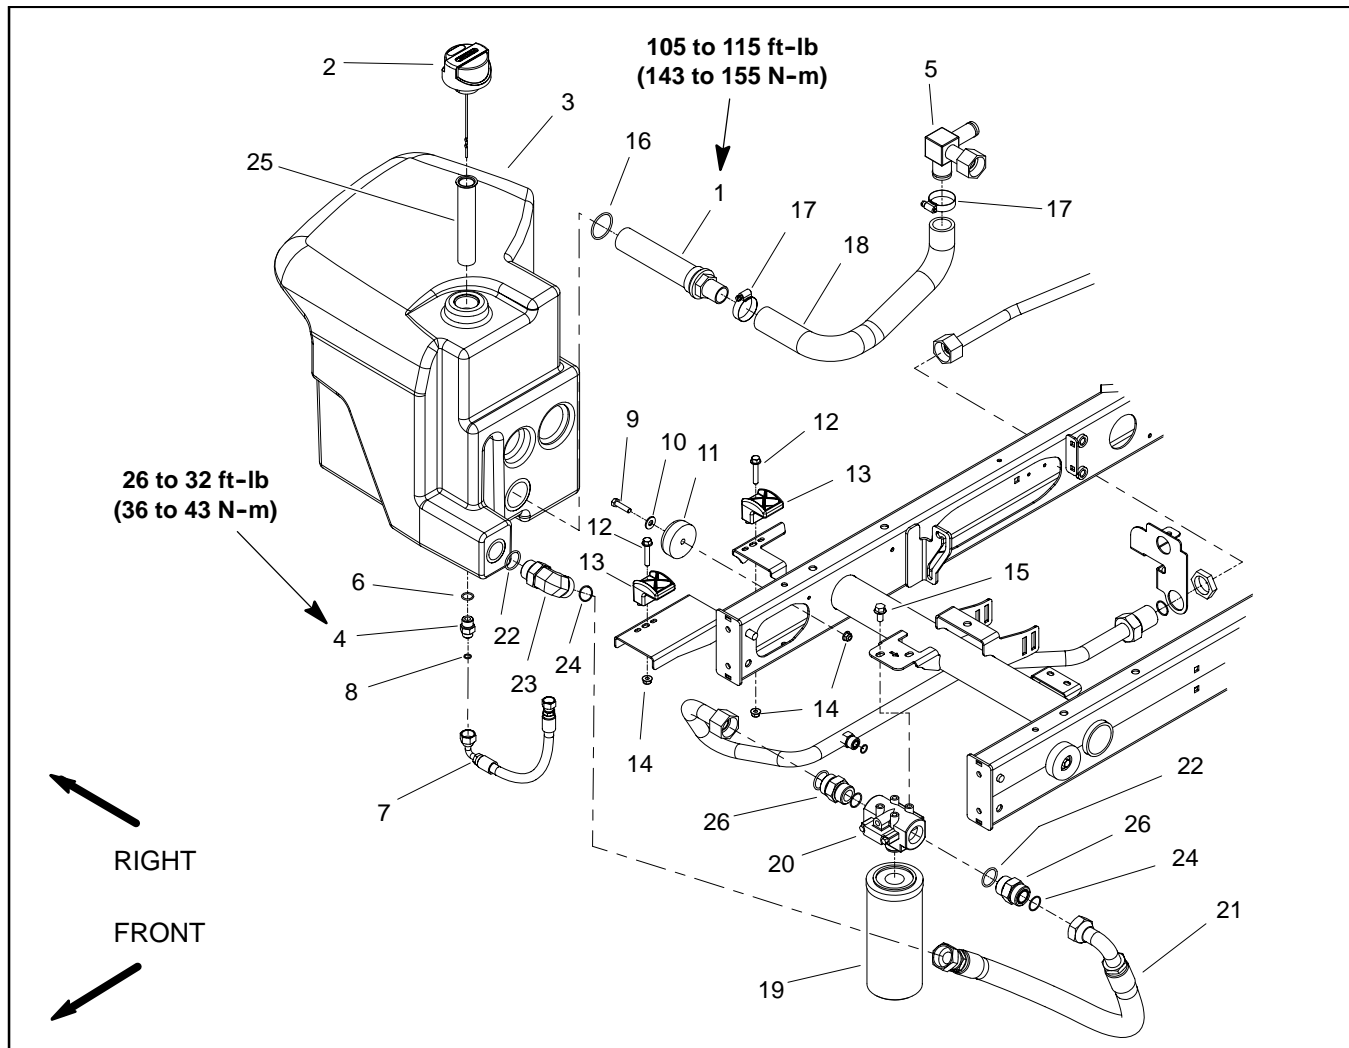

Figure 64
Removal (Fig. 64)
3. Disconnect hydraulic hose (item 7) from adapter fitting on bottom of reservoir to allow draining of reservoir. Drain reservoir into a suitable container.
5. Remove hydraulic reservoir using Figure 64 as a guide.
Inspection (Fig. 64)
Installation (Fig. 64)